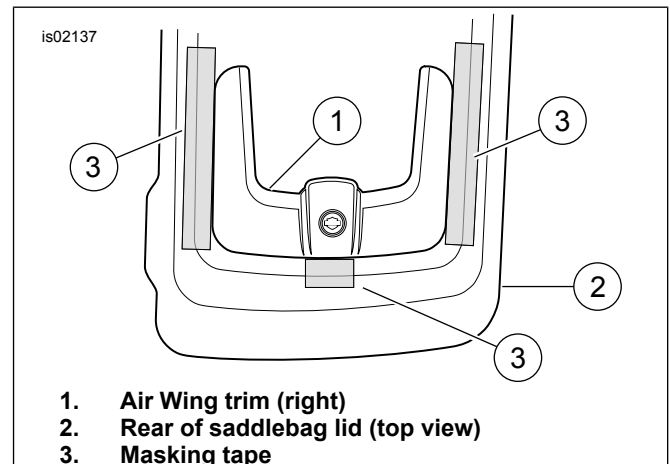

Figure 2. Air Wing Trim Installation (Right Side Shown)
3. See Figure 2. Carefully mark the side and rear location of the trim on the saddlebag lid with masking tape. Remove the trim piece and set it aside.